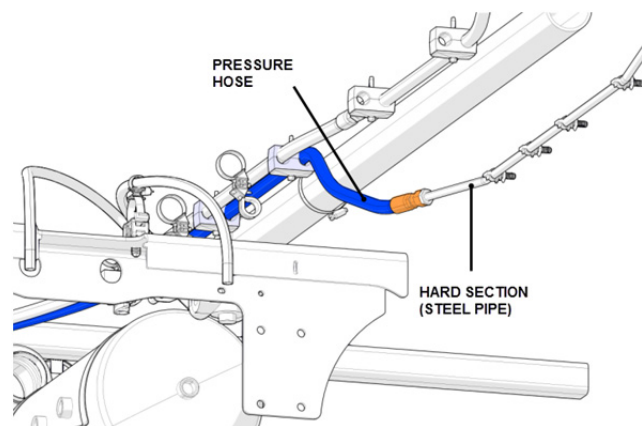

FIGURE 3
- In the rear wheel well, it is located on the curb side. It is connected to a hard section (metal pipe) from the steering pump (fig. 3). Search above the rear R.H. side air spring of the drive axle